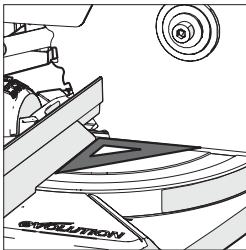

Fig. 13
- Place a set square on the table with one short edge against the fence and the other short edge against the blade (avoiding the TCT tips of the blade teeth) (**Fig. 13**).